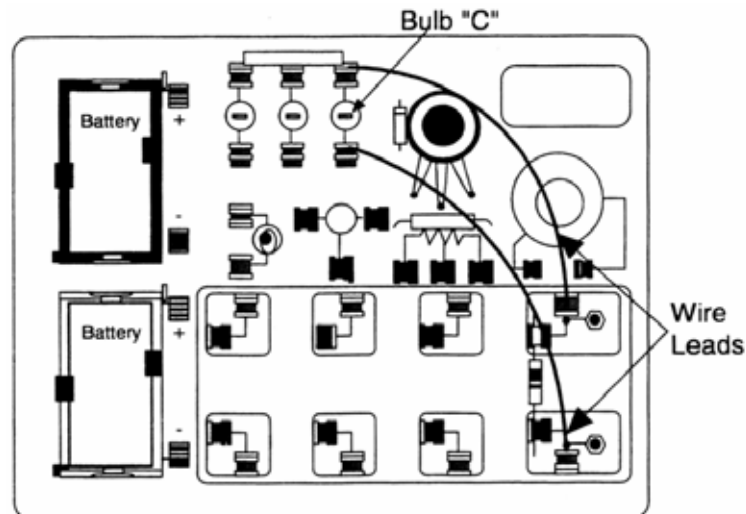

Figure 3.4
2. Remove the resistor from the component springs on the circuit board. Use clip leads to connect to the component springs for the socket labeled 3 VOLT BULB “C”, as in Figure 3.4.
4. Close the Scope display window, open a Graph display, and select *output voltage (V)*. Drag the Current, Ch A icon in the Data list to the abscissa of the Graph display. The Graph should now show voltage vs. current.